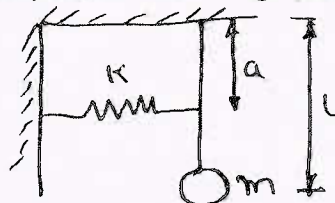

Fig.Q8(b)
- b. Find the natural frequency of the system shown in Fig.Q8(b).